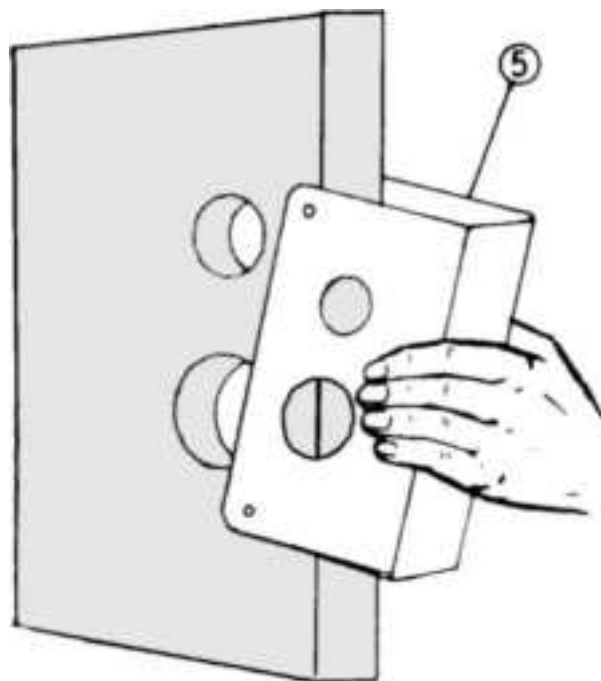

**Figure 13.139** Line up the Adjust-A-Lock unit when fitting into the door. (*M.A.G. Engineering and Mfg., Inc .*)
4. Slide the unit (5) over the door and position both holes to line up with the holes in the door (Fig. 13.139).